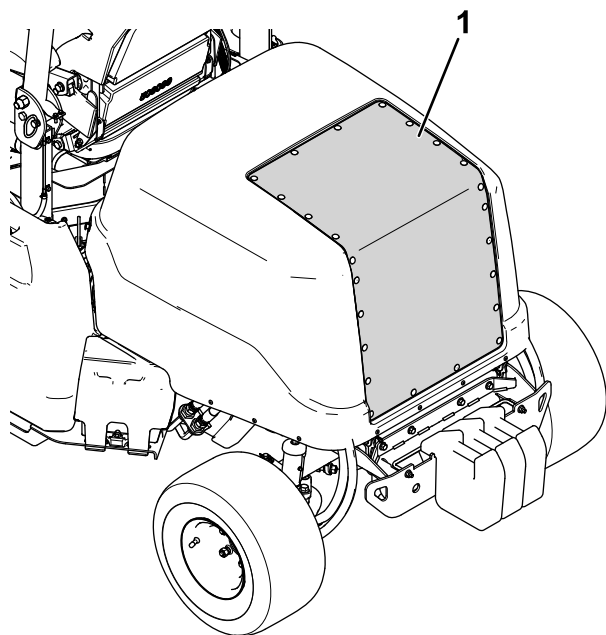

Figure 73
2. Use compressed air to clean the hood screen (shown in Figure 73). Direct the air out from the machine.